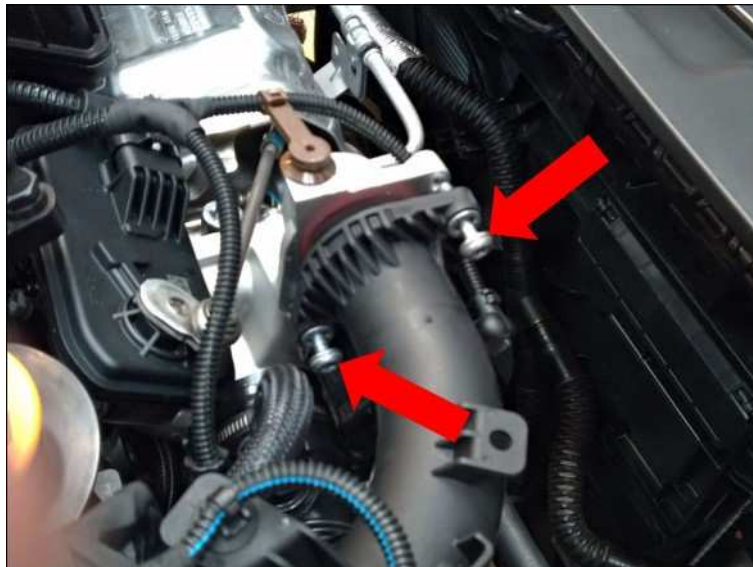

Fig. 2
6. Release the bolts (Fig. 2) on the turbocharger air outlet pipe.